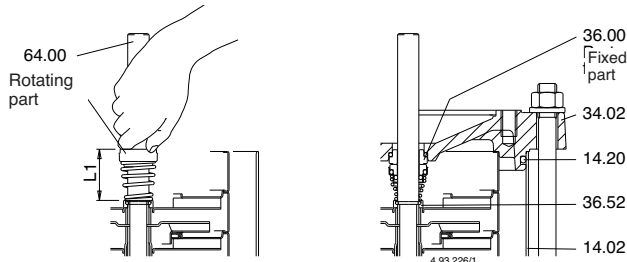

Fig.5 Inserting the mechanical seal
**The seal rings in EPDM (Ethylene-Propylene) must never come into contact with oil or grease.** To facilitate the mounting of the mechanical seal, lubricate the shaft, the seating of the stationary part and the seal rings with clean water or any other lubricant compatible with the material in which the seal rings are made. Push the rotating part as far as the shoulder ring (36.52) on the shaft (64.00), without compressing the spring. Check the length before and after insertion and raise the rotating ring as far as the initial length (L1 in fig.5).